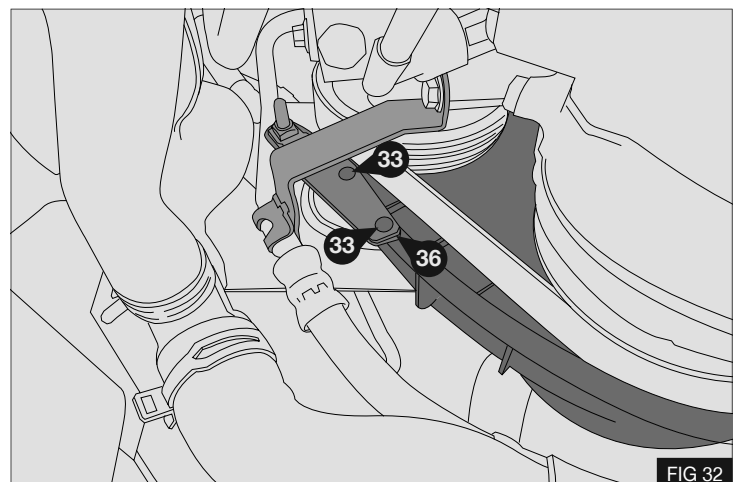

FIG 32
4. Position the plate **36** as shown. Drill 2x 4mm diameter holes, and secure using the rivets **33** - Fig 32